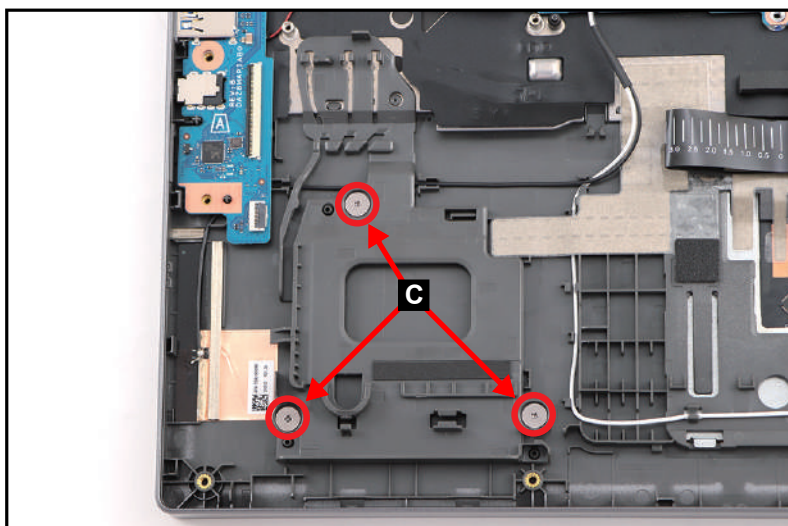

Figure 3-158. Replacing the Smart Card Holder
2. Install three (3) screws (C) to secure the smart card holder (Figure 3-158).